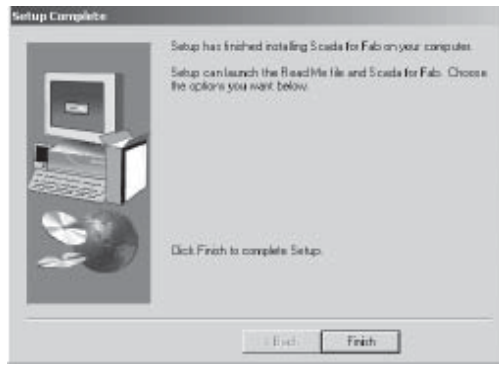

Fig. 2-6 Installation Interface 6
Step5. In Fig. 2-6, if you want to run the system immediately, select **°Yes±**. Launch the program file. We don't want to run the system immediately and click **°Finish±**.